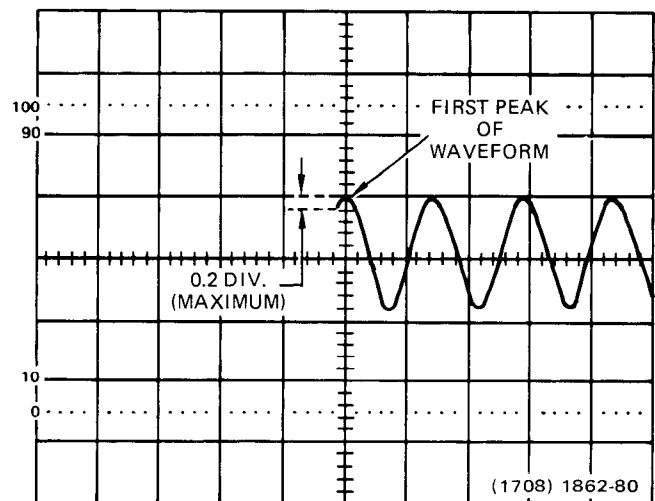

Fig. 6-2. Typical display when checking Trigger Sensitivity.
e. Turn A TRIGGER LEVEL slowly counterclockwise through the range of stable triggering and note maximum amplitude of positive slope before the first peak of displayed waveform. See Figure 6-2.
f. CHECK—The triggered display for an amplitude of 0 to 0.2 division of positive slope before the first peak of displayed waveform when turning A TRIGGER LEVEL slowly counterclockwise through the range of stable triggering. See Figure 6-2.
d. Turn B TRIGGER LEVEL slowly counterclockwise through the range of stable triggering and note maximum amplitude of positive slope before the first peak of displayed waveform. See Figure 6-2.
e. CHECK—The triggered display for a full length sweep and for an amplitude of 0 to 0.2 division of positive slope before the first peak of displayed waveform when turning B TRIGGER LEVEL slowly counterclockwise through the range of stable triggering. See Figure 6-2.